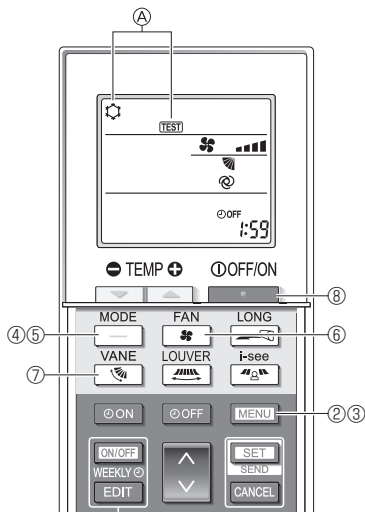

Fig. 8-5
- ① Turn on the power to the unit at least 12 hours before the test run.
- ② Press the **[MENU]** button for 5 seconds. (Fig. 8-5)
- ③ Press the **[MENU]** button.
- ④ **[TEST]** and the current operation mode are displayed. (Fig. 8-5)
- ④ Press the **[MODE]** button to activate cool mode, then check whether cool air is blown out from the unit.
- ⑤ Press the **[MODE]** button to activate heat mode, then check whether warm air is blown out from the unit.
- ⑥ Press the **[FAN]** button and check whether the fan speed changes.
- ⑦ Press the **[VANE]** button and check whether the auto vane operates properly.
- ⑧ Press the **[MENU]** button to stop the test run.